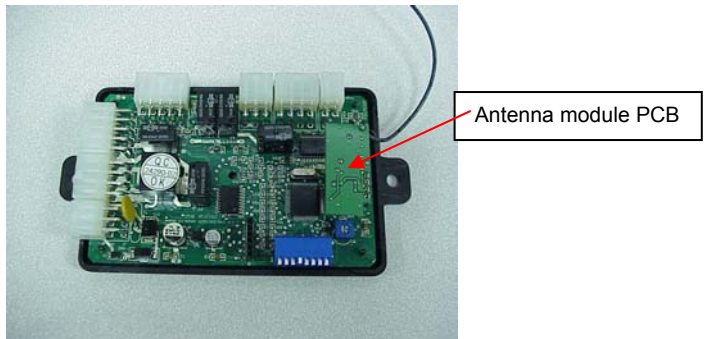

Figure 2: Antenna module PCB installation.
3. Move DIP switches 4-6 to the "ON" position. Make sure that the antenna module PCB is installed. See Figure 2.